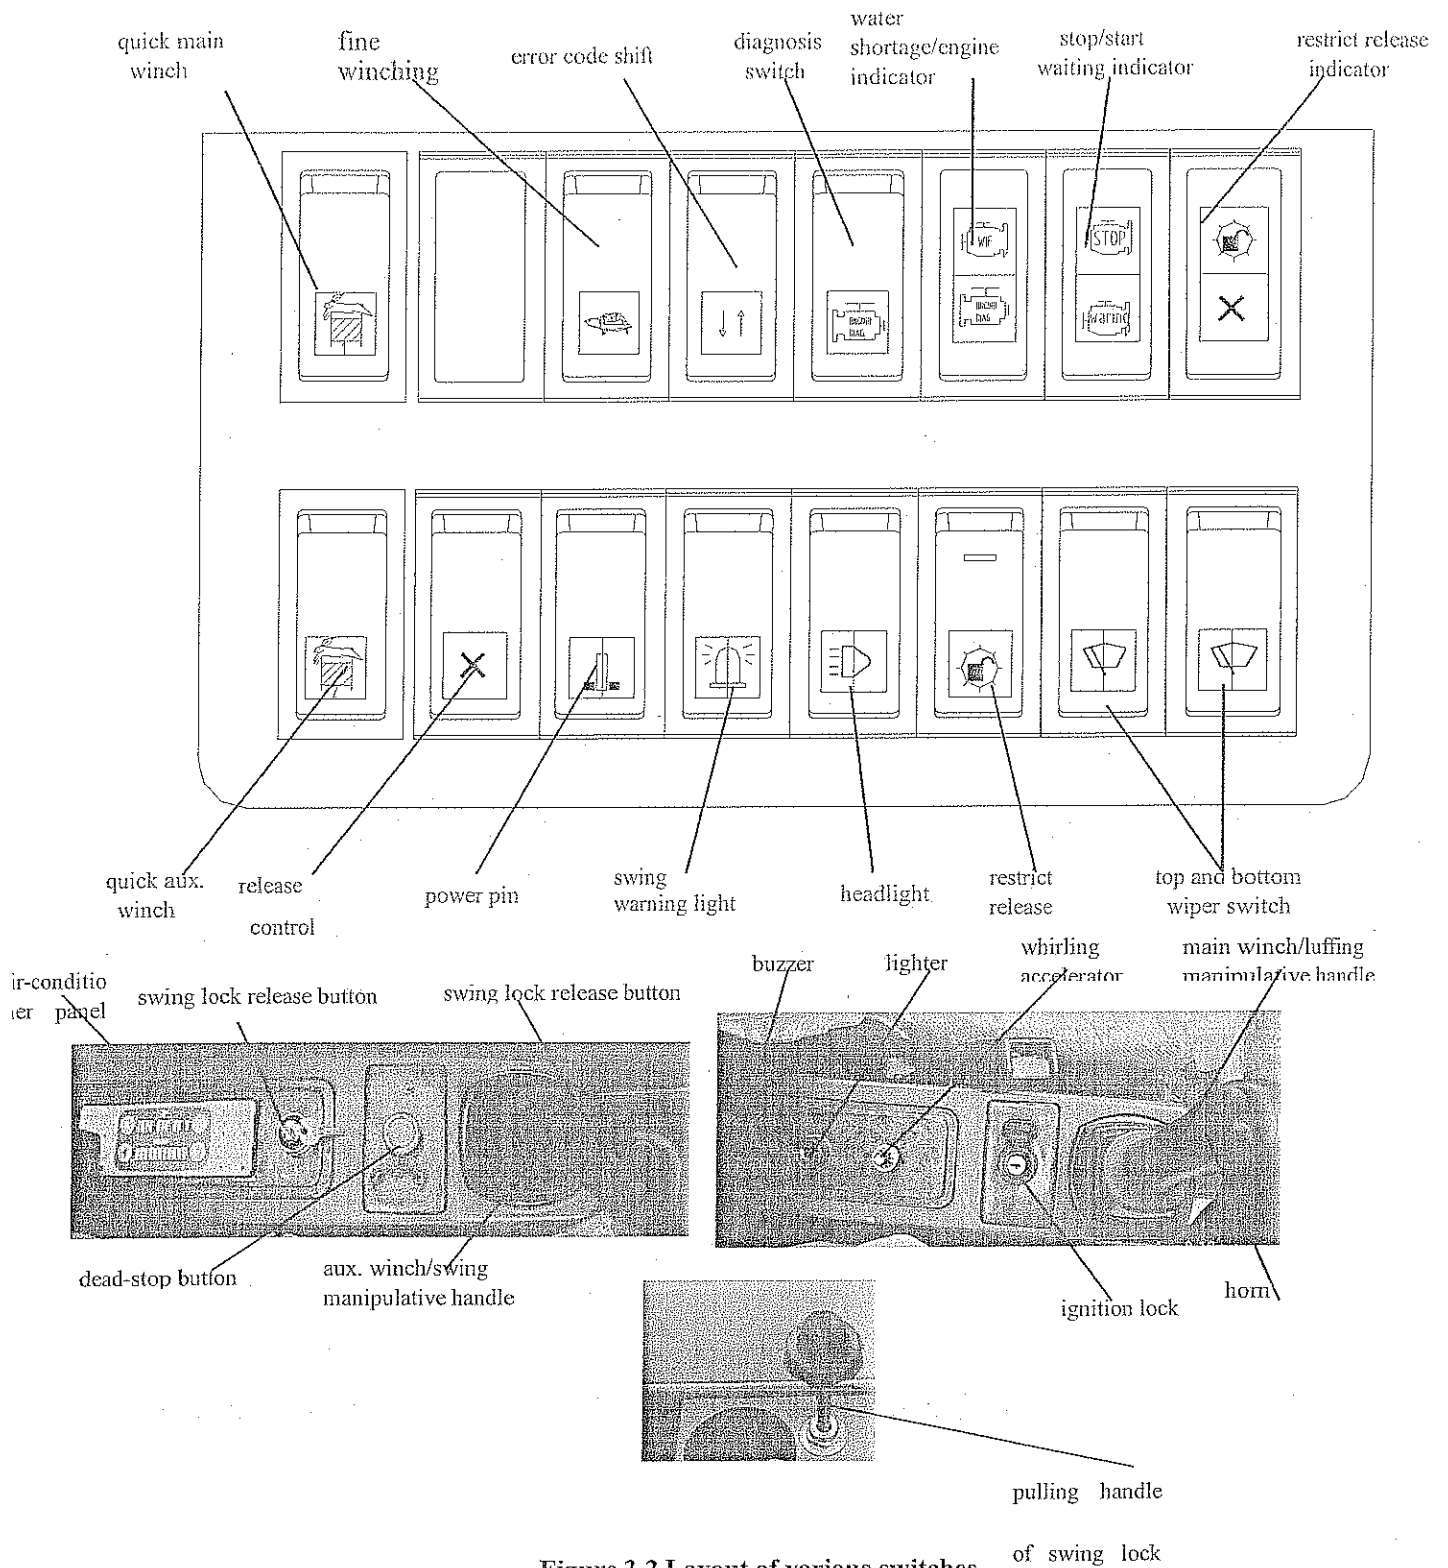

Figure 3-2 Layout of various switches
The position of hand accelerator is shown as figure 3-2 and foot accelerator as figure 3-4.
(2) Start the engine:
- ① While the engine is starting, set all control lever and control handle of main winch luffing and aux. winch swing to meso position. All switches and handles are off.
- ② Turn on ignition lock, sound the horn (horn button position is shown in figure 3-2, one on left and right handle respectively) to inform the surrounding people, and then set the control lever of the engine's accelerator to medium speed level.
- ③ Turn ignition lock to ST and start the engine. After the engine is started, immediately set the accelerator to idle speed, and release the ignition lock to let it go back to ON automatically, i.e., working status.
- ④ If the engine fails to start after igniting for three continuous times, check the fuel supply system. No smoke discharged during start means no fuel is transmitted.
- ⑤ In order not to damage the starter, each attempt to start the engine should not last more than 15 seconds, and there should be a 2-minute or above interval between two attempts.
- ⑥ Within 15 seconds after the engine is started, electronic monitor should display the oil pressure of the engine. When the engine is cold started, increase its speed gradually so as to lubricate the axletree thoroughly and stabilize the oil pressure.
- ⑦ Before doing task with load, run the engine at idle speed for 3-5 minutes. It shouldn't be too long; otherwise it shall damage the engine.
(3) Stop the engine
Before doing swing, sound the horn (horn buttons are on left and right control handle) to notify, turn on the warning light on aux. control box (Figure 3-2), then the button is bright. Make sure the power pin rocker switch is on. Pull up the swing braking pin handle, then press and hold "Swing braking contact button" on the swing handle to complete swing action.
The Swing braking release button on the left grab box controls the free sliding and turning function. When the switch is ON (see Figure 3-2), it can slide and turn freely; when it is OFF, it cannot, and the upperworks is locked if the bottom aux. winch swing control handle is at meso position.